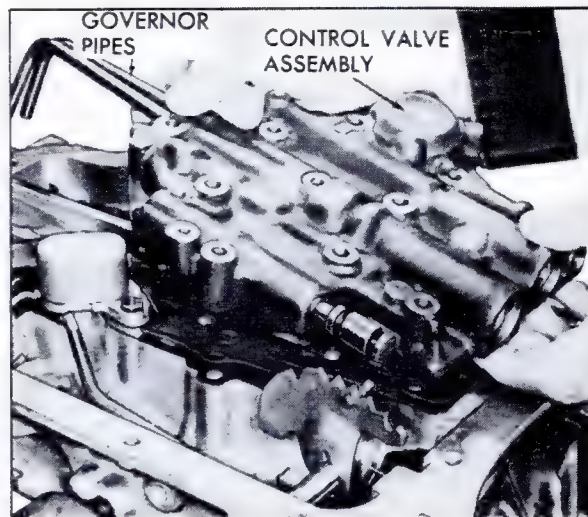

Fig. 7-46 Removing Control Valve Assembly
3. Remove control valve assembly with the two governor pipes attached, Fig. 7-46.